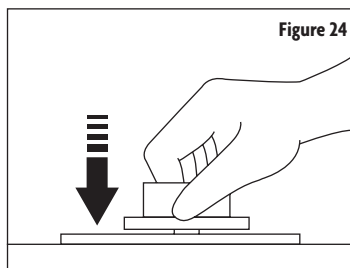

Figure 24
- After the burner ignites, keep the knob pressed down for 10 seconds. (Refer to Figure 24.) This allows the thermocouple to heat up and activate the safety valve.